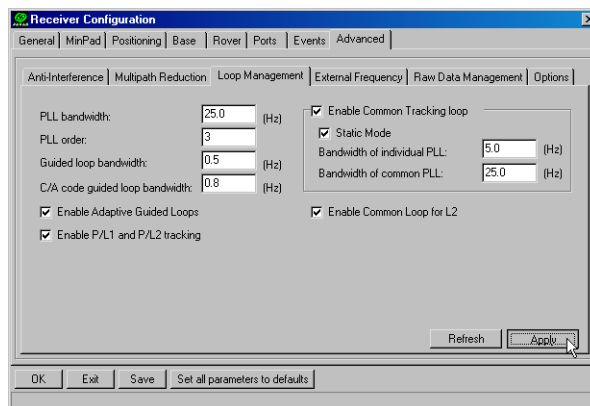

Figure 3-7. Advanced->loop Management
1. Click the **Loop Management** tab and set the following parameters, then click **Apply** (Figure 3-7):